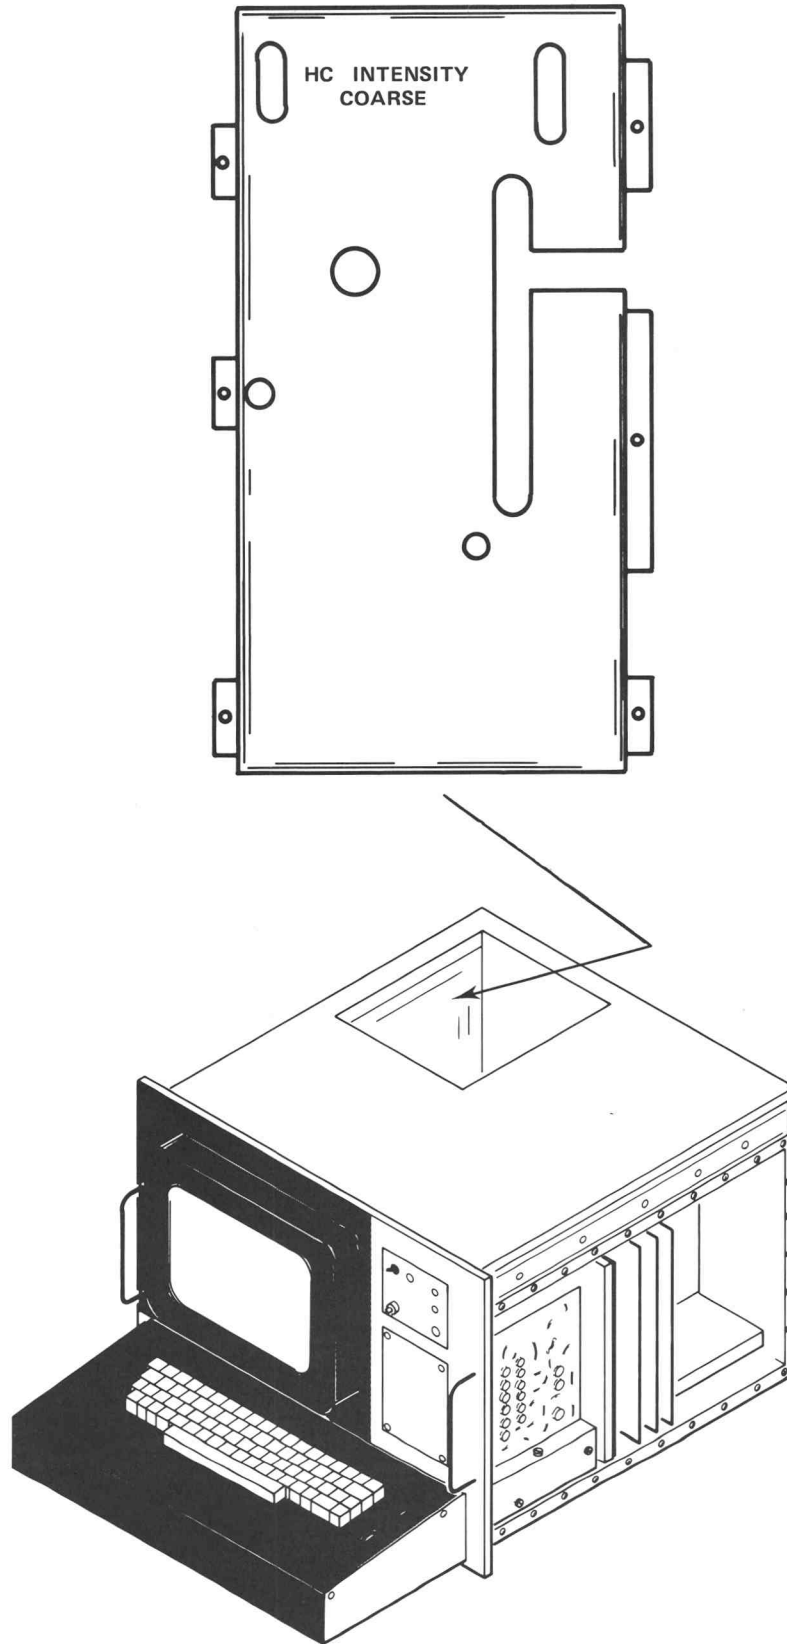

Fig. 4-15. Location of HC INTENSITY, COARSE.
f. Press the Terminal COPY button and note that a scan bar moves up or across the screen. (Direction will depend upon type of Hard Copy Unit and upon option selection within the Hard Copy Unit.) If the scan bar does not appear, adjust HC INTENSITY, COARSE (on the High Voltage and Z Axis board, Fig. 4-15) until the bar does appear. Alternately press PAGE and COPY, and adjust the HC INTENSITY, COARSE, until the display is just at the point where the complete scan bar stores.